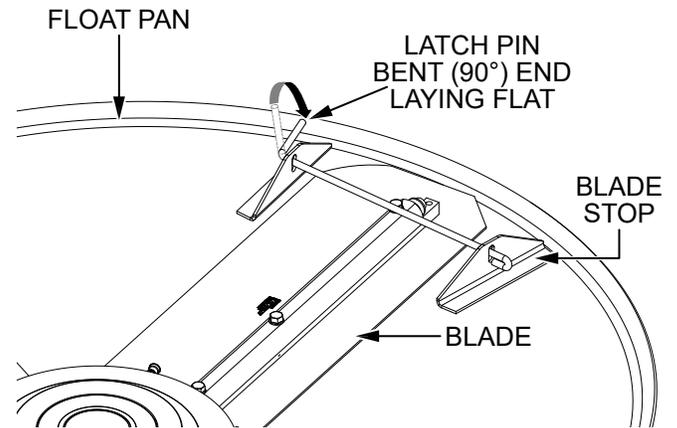

Figure 32. Latch Pin Placement
4. After it has been routed through the **blade stop** holes, rotate the **latch pin** so the end that is bent approximately 90 degrees lays flat on the surface of the **float pan**. See Figure 32.